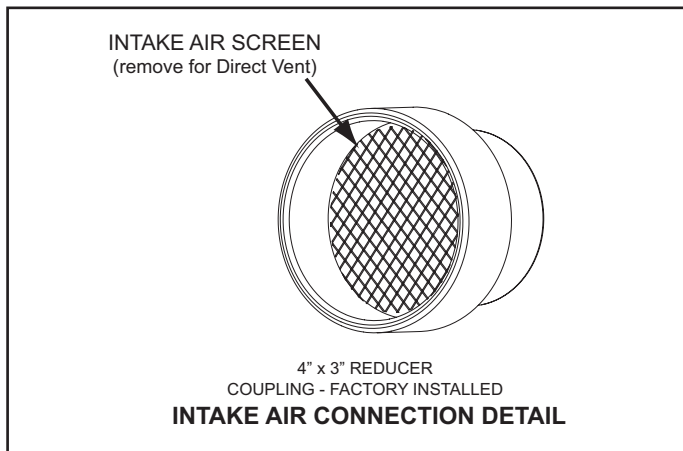

Figure 17. Intake Air Terminal
- Ensure the Intake Air Screen on the Intake Air Connection is removed before connecting the intake air pipe to the water heater, see Figure 17.